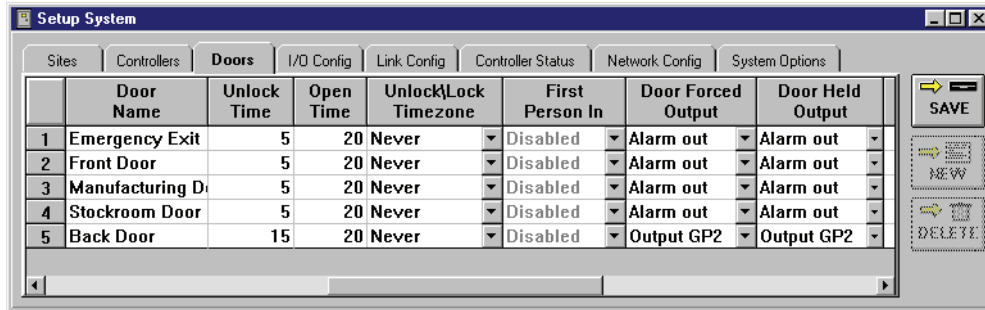

Figure 3-24: Set the Door Unlock Time
4. The resulting window should look similar to Figure 3-24 on page 33 of this section.
1. To set a door's open time, click on the Setup ⇒ System pull-down menu or click on the  tool bar button. Then click on the **Doors** tab (see Figure 3-24 on page 33 of this section). If the "Open Time" column does not appear in the window, use the scroll bar at the bottom of the window and scroll to the right until the column appears.